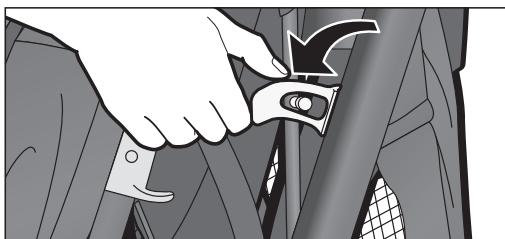

Figure 3.1
- 1** Unlatch side frame lock. **Figure 3.1**